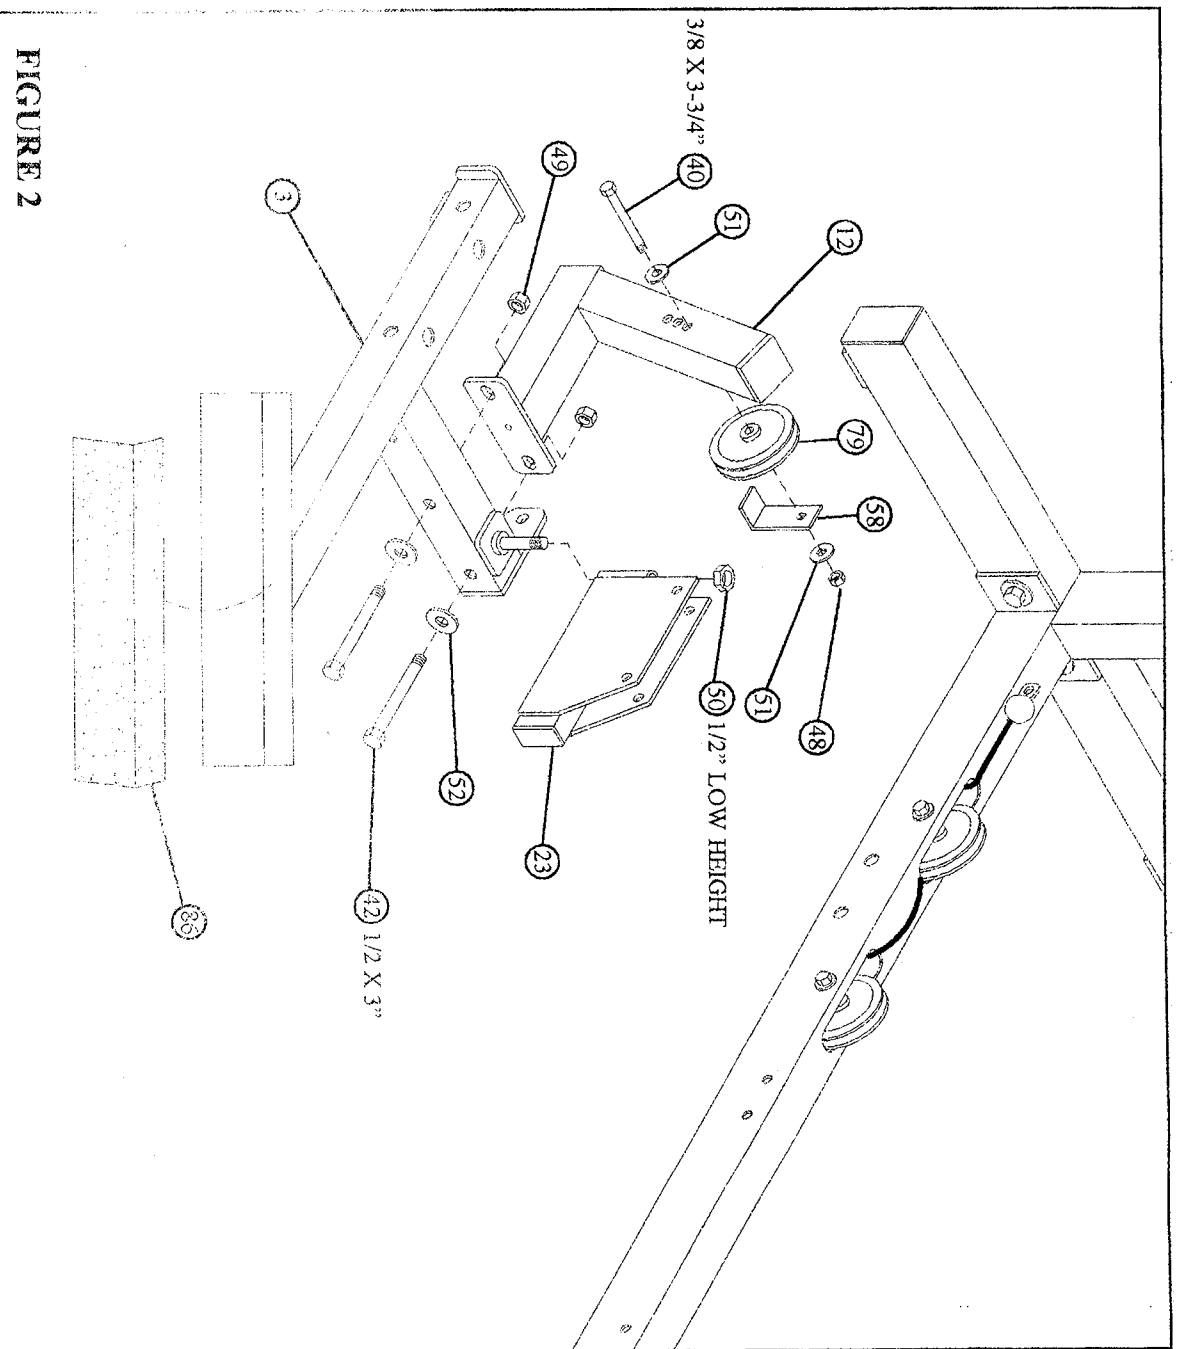

FIGURE 2
- Securely assemble one 3-1/2" PULLEY (79) to the top hole of the LEVER STOP (12) using one 3/8 X 3-3/4" BOLT (40), two 3/8" WASHERS (51), one 2-3/8" RETAINING CLIP (58), and one 3/8" LOCKNUT (48). The extra holes in the LEVER STOP (12) are to be used for cable adjustment.
- Securely attach LEVER STOP (12) to WEIGHT STACK BASE (3) using two 1/2 X 3" BOLTS (42), two 1/2" WASHERS (52), and two 1/2" LOCKNUTS (49).
- Attach SWIVEL PULLEY BRACKET (23) to the WEIGHT STACK BASE (3) using one 1/2" LOW HEIGHT LOCKNUT (50). (NOTE: Securely tighten, then back nut off 1/4 turn to allow the SWIVEL PULLEY BRACKET (23) to rotate freely.)
- Center 4 X 1 1/4" NON SKID STRIP (86) on WEIGHT STACK BASE (3) as shown in FIGURE 2.